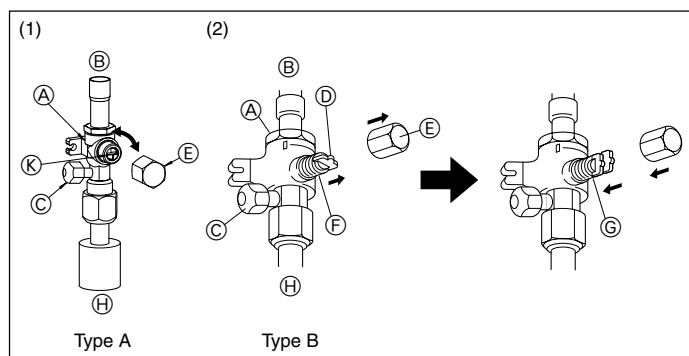
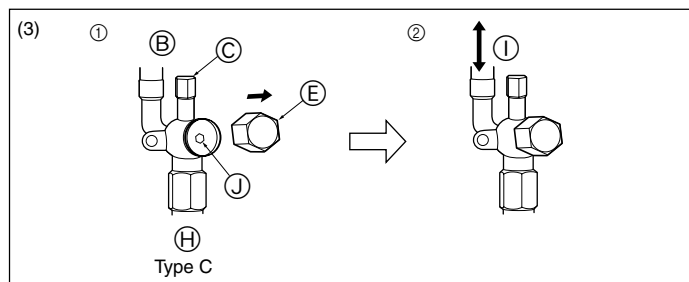

Fig. 4-6
Fig. 4-7
- (1) Type A (Fig. 4-6)
- ① Remove the cap, then turn one-quarter rotation counter-clockwise with a flat-bladed screwdriver to complete open.
- ② Check that the valves are fully open, then return the cap to its original state and tighten it down.
- (2) Type B (Fig. 4-6)
- ① Remove the cap, pull the handle toward you and rotate 1/4 turn in a counterclockwise direction to open.
- ② Make sure that the stop valve is open completely, push in the handle and rotate the cap back to its original position.
- (3) Type C (Fig. 4-7)
- ① Remove the cap and turn the valve rod counterclockwise as far as it will go with the use of a 4 mm hexagonal wrench. Stop turning when it hits the stopper.
- ② Make sure that the stop valve is open completely and rotate the cap back to its original position.